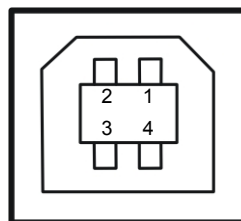

Figure 5-4 USB-B type connector
1. The USB interface is a USB-B type connector (as shown by Figure 5-4):